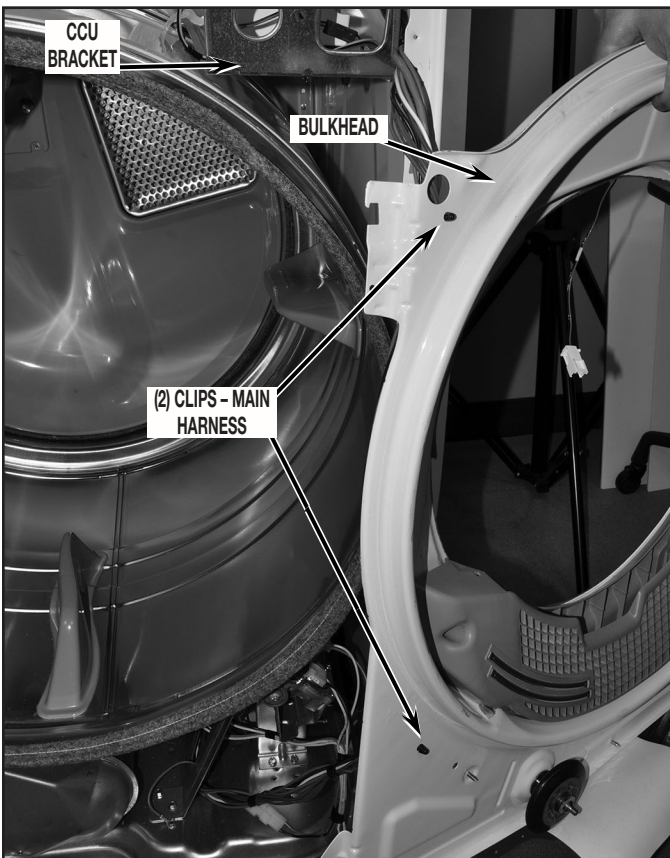

FIGURE 15
15. Swing bulkhead assembly to side and remove two (2) harness clips to disconnect harness from bulkhead. See Figure 15.